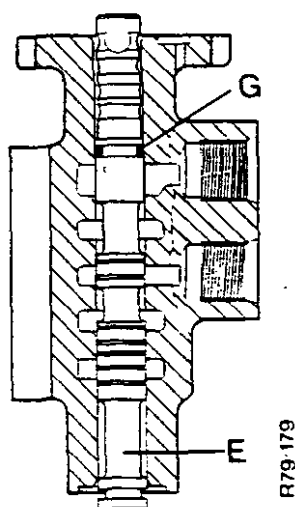

FIGURE 99. ASSEMBLY OF THE THREE-WAY VALVE
1. Fit a new 'O' ring 'G' to the spool. Put clean oil on the spool (see Figure 99).